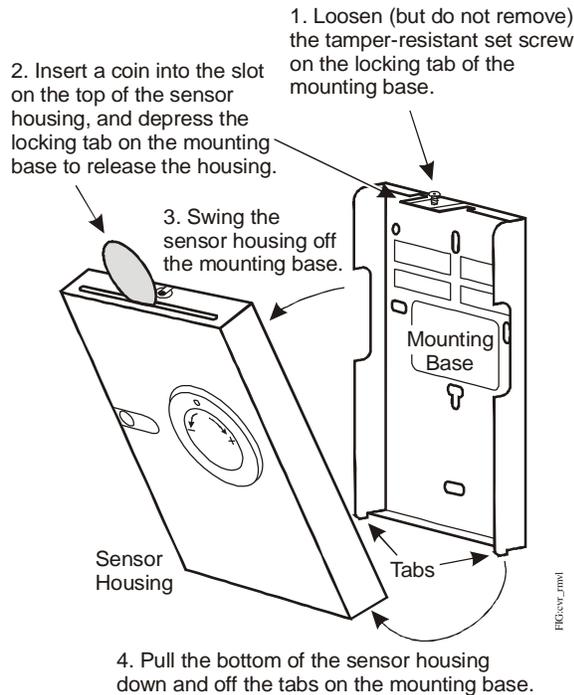
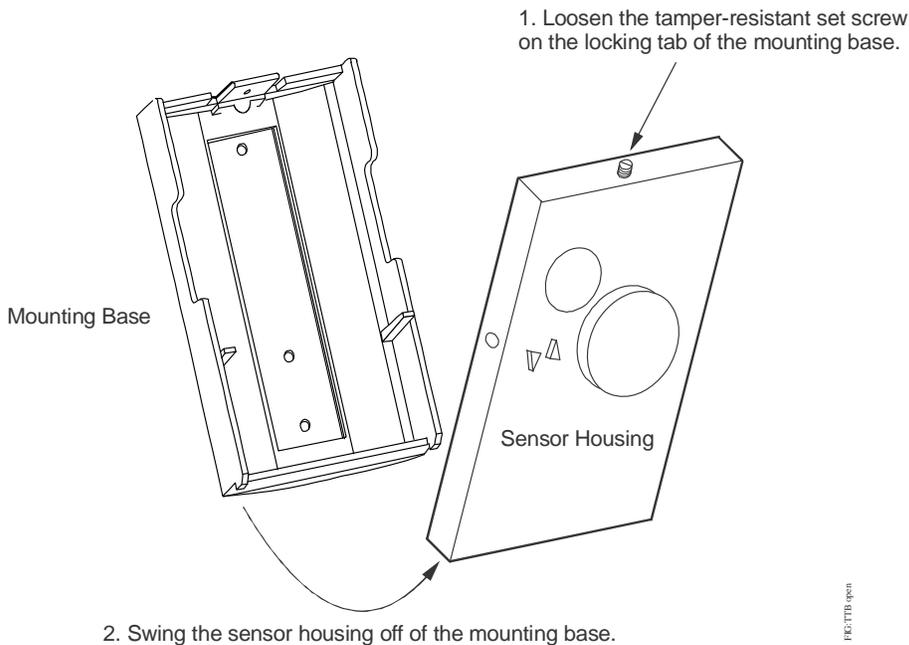

Figure 5: Removing the WRZ Series Sensor Housing from Its Mounting Base (Temperature and Humidity Model Shown)
Figure 6: Removing the WRZ-TTB0000-5 Series Sensor Housing from Its Mounting Base (Temperature Only Model Shown)
1. Remove the WRZ Series Sensor housing from the sensor mounting base as shown in Figure 5 or Figure 6.